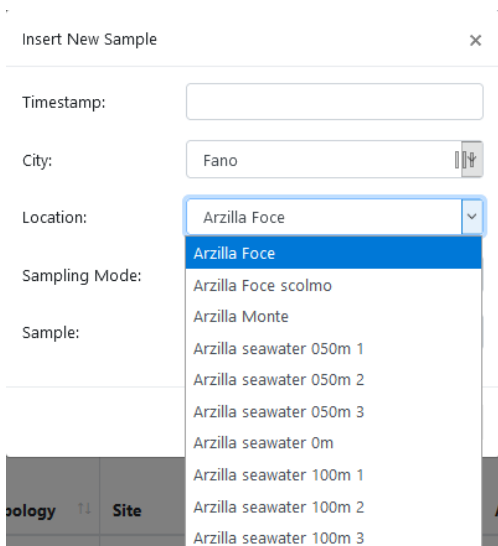

Figure 39 - Insert New Sample form. Location list.
2. select from the drop-down list in order *Location* (Figure 39), *Sampling Mode* (Figure 40) (*Avalanche sampler* for a sample collected by the automatic sampler or *Manual Sampling* for a sample collected manually) and *Sample* (Figure 41) (list of a *samples id* that varies according to the selections made previously);